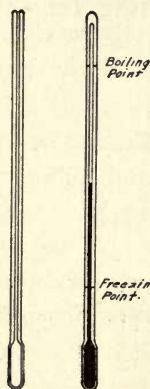

FIG. 7
13. Liquid Thermometers. Commoner than the metallic thermometers, however, are those made by the use of some liquid such as mercury or alcohol. In these (see Fig. 7) a glass tube has a thin-walled bulb blown on one end. The open end